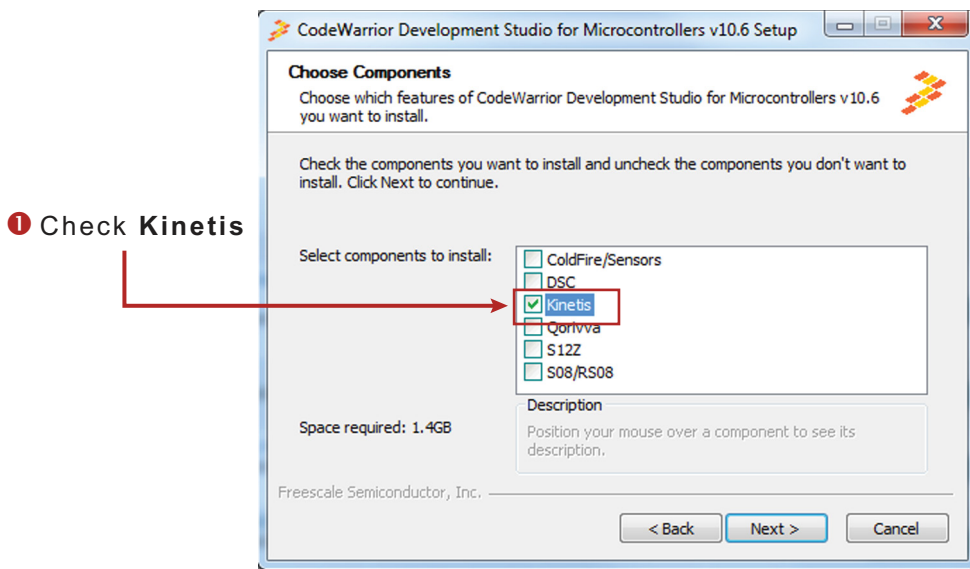

Figure 21. Choose Component GUI
3. In the GUI window select the components to install (see Figure 21). Select the Kinetis component and click on **Next** to complete the installation.